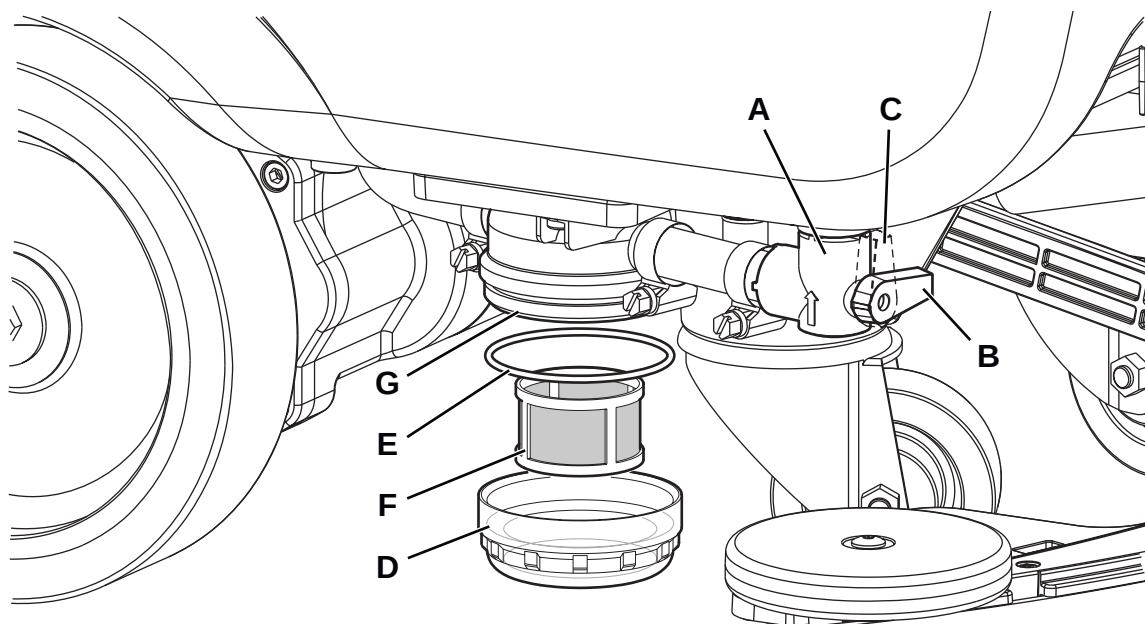

Figure 13
2. Ensure that the machine is off and the operator key (41) has been removed.
3. Close the detergent solution tank valve (A, Fig. 13). The valve is closed when it is in position (B) and it is open when it is in position (C).
4. Remove the transparent cover (D) and the gasket (E), then remove the filter strainer (F). Wash and rinse them, then refit them carefully onto the filter support (G).
5. Open the valve (A).